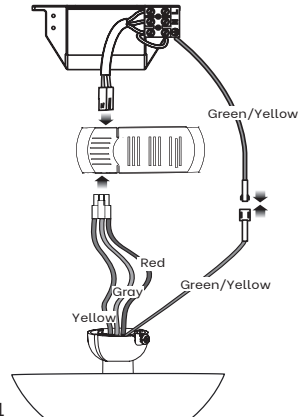

Fig. 11
2. Securely connect the Green/Yellow wires (earth wire) from the motor assembly and hanging bracket. Carefully connect the quick connector socket protruding through the motor assembly to the plug on remote receiver. Connect the quick connector plug protruding through the terminal block on hanging bracket to the connector socket on the remote receiver (Fig.11).